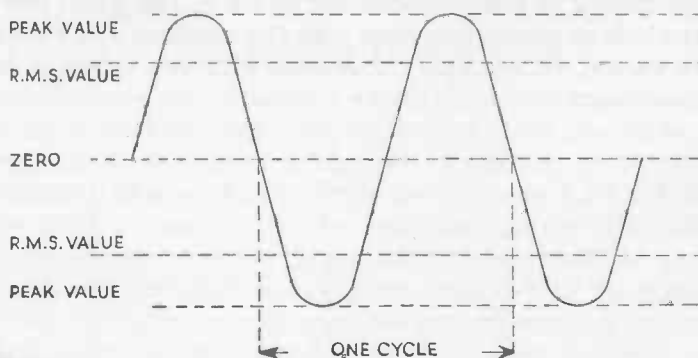

FIG. 2
The graph of an alternating current is shown in *Fig. 2*—the same curve also serves to show an alternating voltage. Note that the current changes are not abrupt; the current starts at zero, rises to a maximum, falls back to zero then reverses its direction and again rises to a maximum and so on. A complete round of operations from zero current to reversal at zero back to zero current is called a "cycle" and the alternating mains have a "frequency" of 50 cycles per second or 50 c.p.s.
4. For mathematical and mechanical reasons the shape of the wave in *Fig. 2* is called a "sine wave", and these facts refer only to sine waves. There are other wave shapes of various kinds, but in radio work we are concerned chiefly with smooth, regular sine waves or very irregular waves such as are produced by a microphone. These irregular waves are called "speech" or "sound waves," or "low frequencies," and their shapes are really electrical copies of sound waves in air.